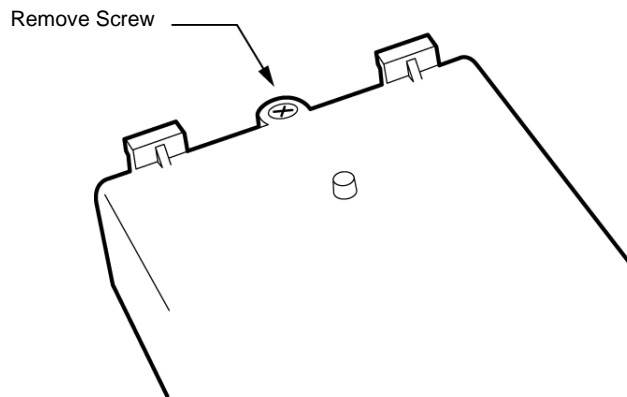

Figure 5-10: Removing AD(A)-R() Unit Cover
2. Remove the screw as illustrated in *Figure 5-10: Removing AD(A)-R() Unit Cover* and open the unit cover.